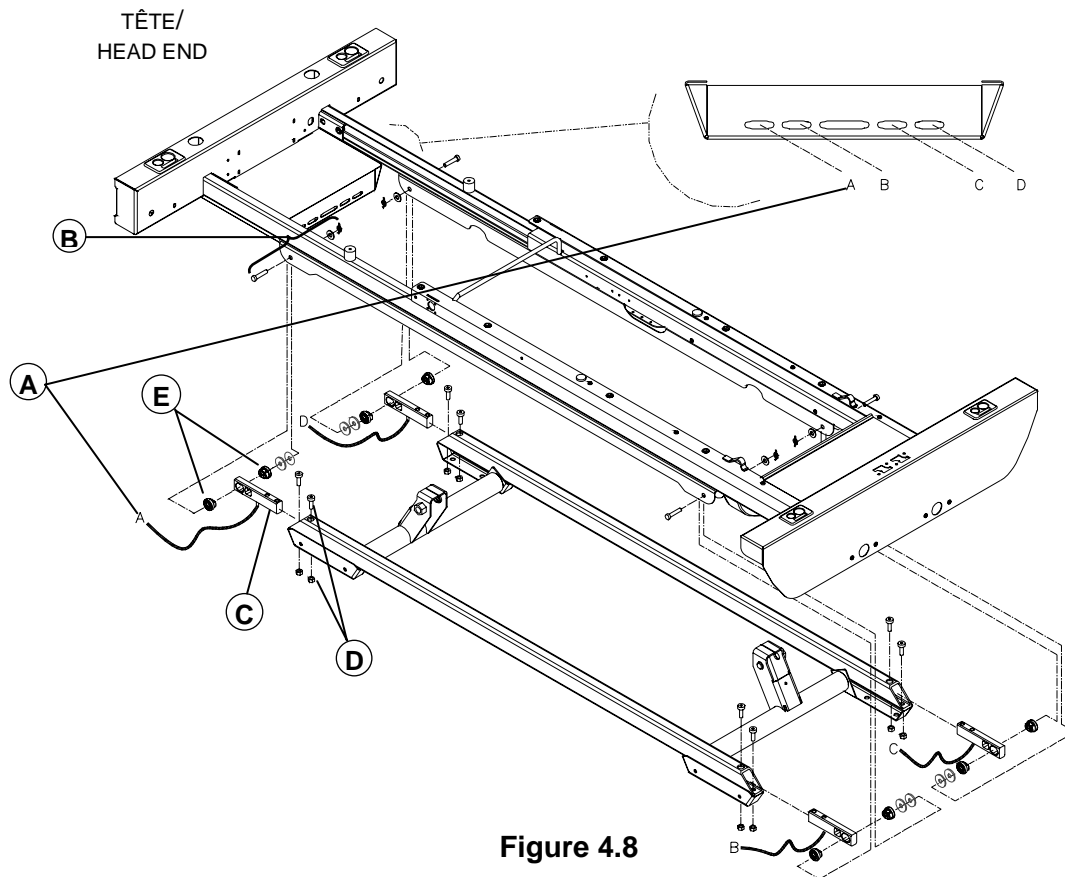

Figure 4.8
2. Verify that the load cell cables are properly connected to the scale control board (see figure 4.8, page 43 for the cable connecting positions).
3. Verify that the load cell cables are properly connected to the scale control board (see figure 4.8, page 43 for the cable connecting positions).
3. Disconnect the defective load cell cable (A) from the scale control board (see figure 4.8 above to identify the right cable).
4. Lower the bed on the jacks until the clevis pin (B) holding the two parts of the fixed frame is free from stress and easy to remove.
5. Using needle nose pliers, remove the Rue ring/washers(3)/clevis pin (B).
6. Continue to lower the bed until the load cells (C) are easily accessible.
7. Using a 5/16" Allen key and a 1/2" wrench, remove the two bolts/locknuts (D) holding the load cell to the bed frame.
8. Remove the defective load cell. Inspect the elastomer sleeves (E) to ensure that the circular hole has not become elliptic. Replace if needed.